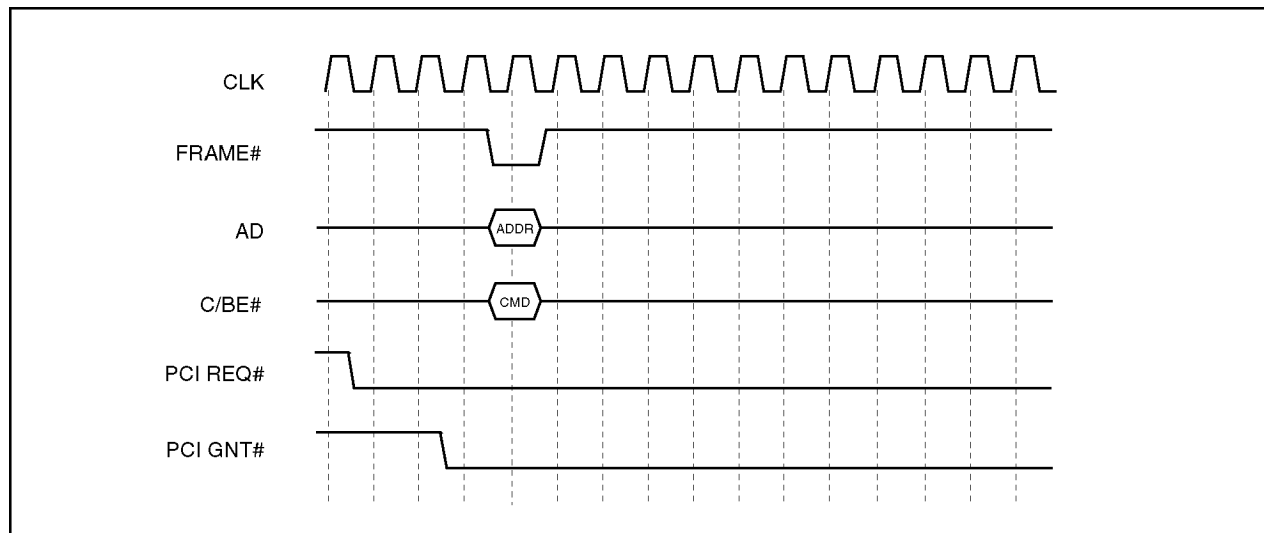

Figure 3-1. Bus Acquisition
Refer to Figure 3-1. Bus acquisition timing cycles are defined by the C/BE[3:0]# command lines during the address (AD) phase of each PCI cycle.